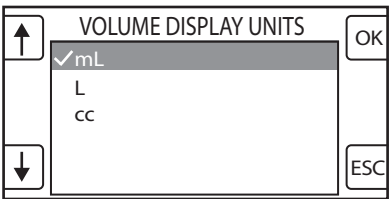

Figure 12 Sample System Setting Screen
- 6. From the System Setting screen, push the buttons next to the arrow icons to highlight or adjust the appropriate setting option (see figure 12). See *System Setting Options* table for available setting options.